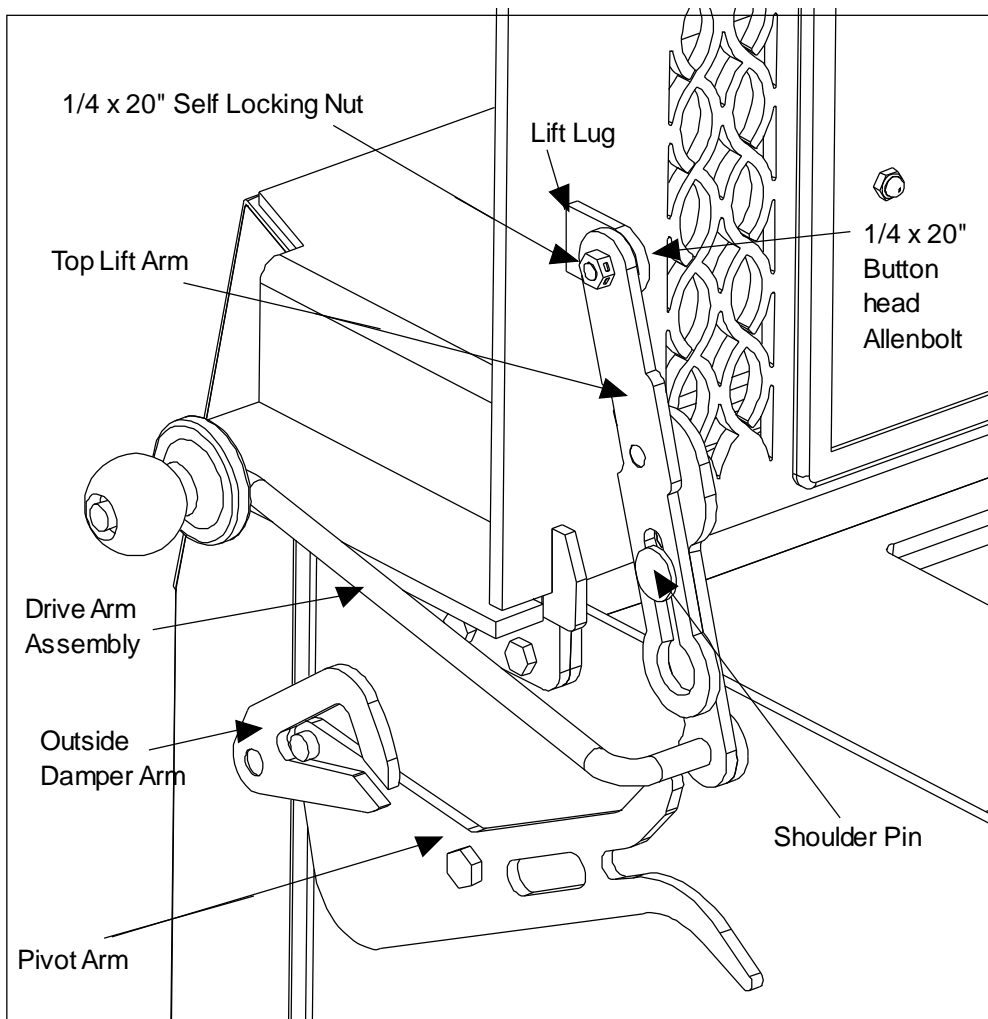

Figure 7
- In extreme cases the lift lug (Fig 7) can get bent. Check to see that it is 90° from the lid. If adjustment is necessary the lug can be straightened with a large adjustable wrench.